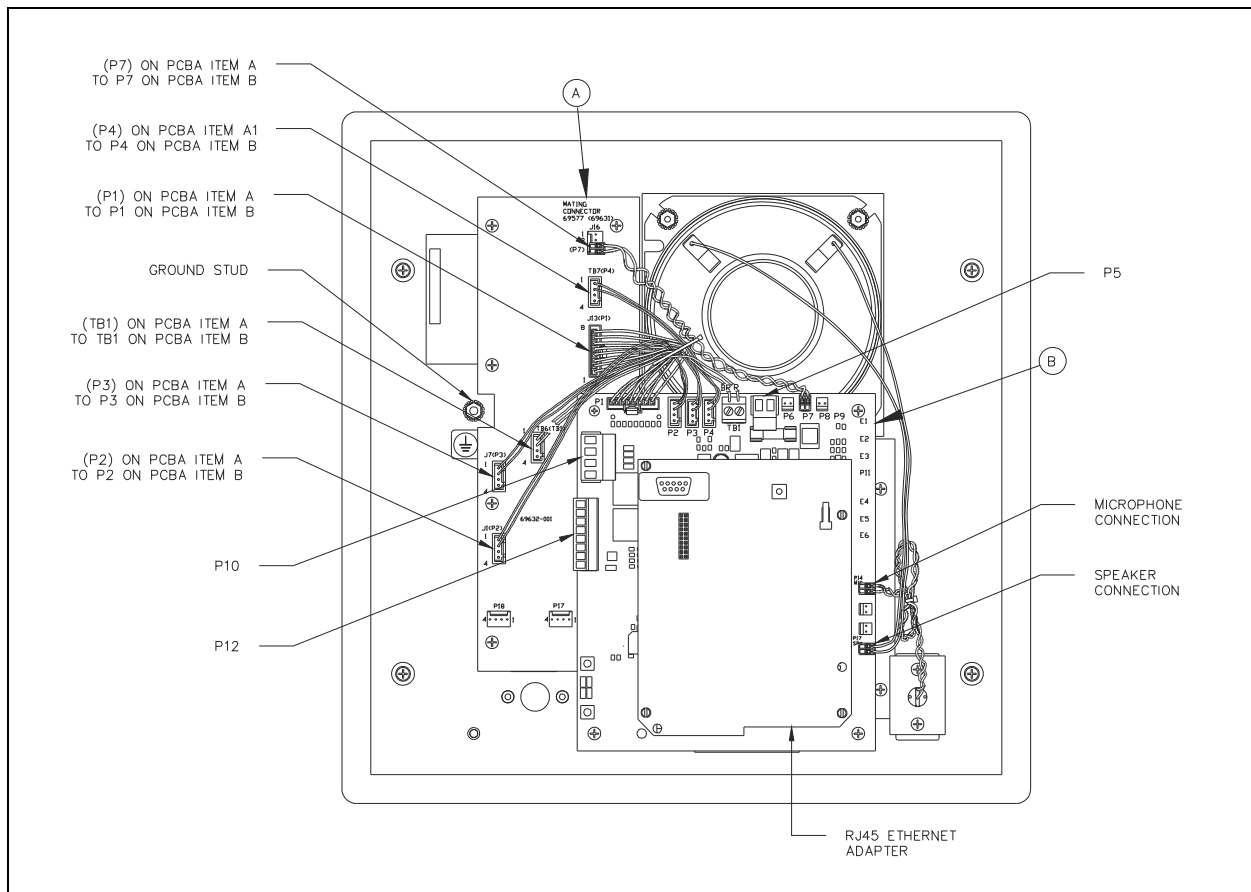

Figure 4. No. 295-702F and 295-702W
6. Disconnect the push button (P2), keypad (P1), microphone (P14), LED (P7), and speaker cables (P17) from the VoIP Carrier PCBA. Record the location of each connection for later reconnection. See Figure 4.